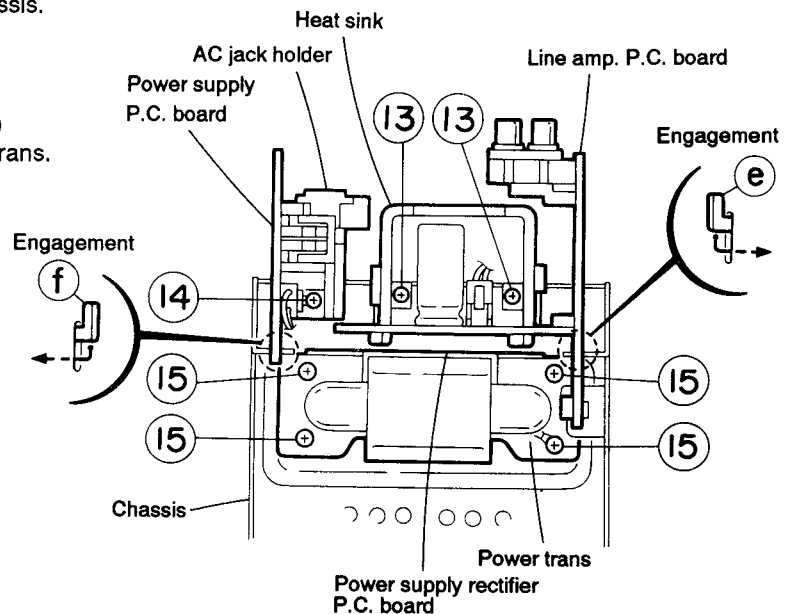

Fig. 5-18
■ Removing the line amp. P.C. board and power supply P.C. board (See Fig. 5-18)
1. Remove the two screws ⑬ retaining the heat sink.
2. After raising the line amp. P.C. board, disengage the two engagement ⑥ between the P.C. board and chassis.
3. Remove the one screw ⑭ retaining the AC jack holder.
4. After raising the power supply P.C. board, remove the engagement ⑦ between the P.C. board and chassis.
■ Removing the power trans. (See Fig. 5-18)